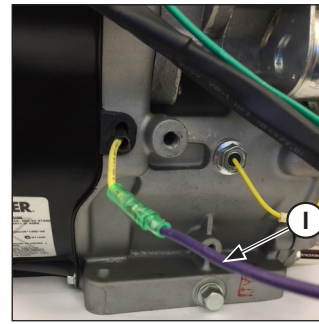

Figure 7. Connect Key Box Purple Lead to Stator Lead.
11. Connect key box purple lead (I) to female bullet connector on stator lead. See Figure 7.